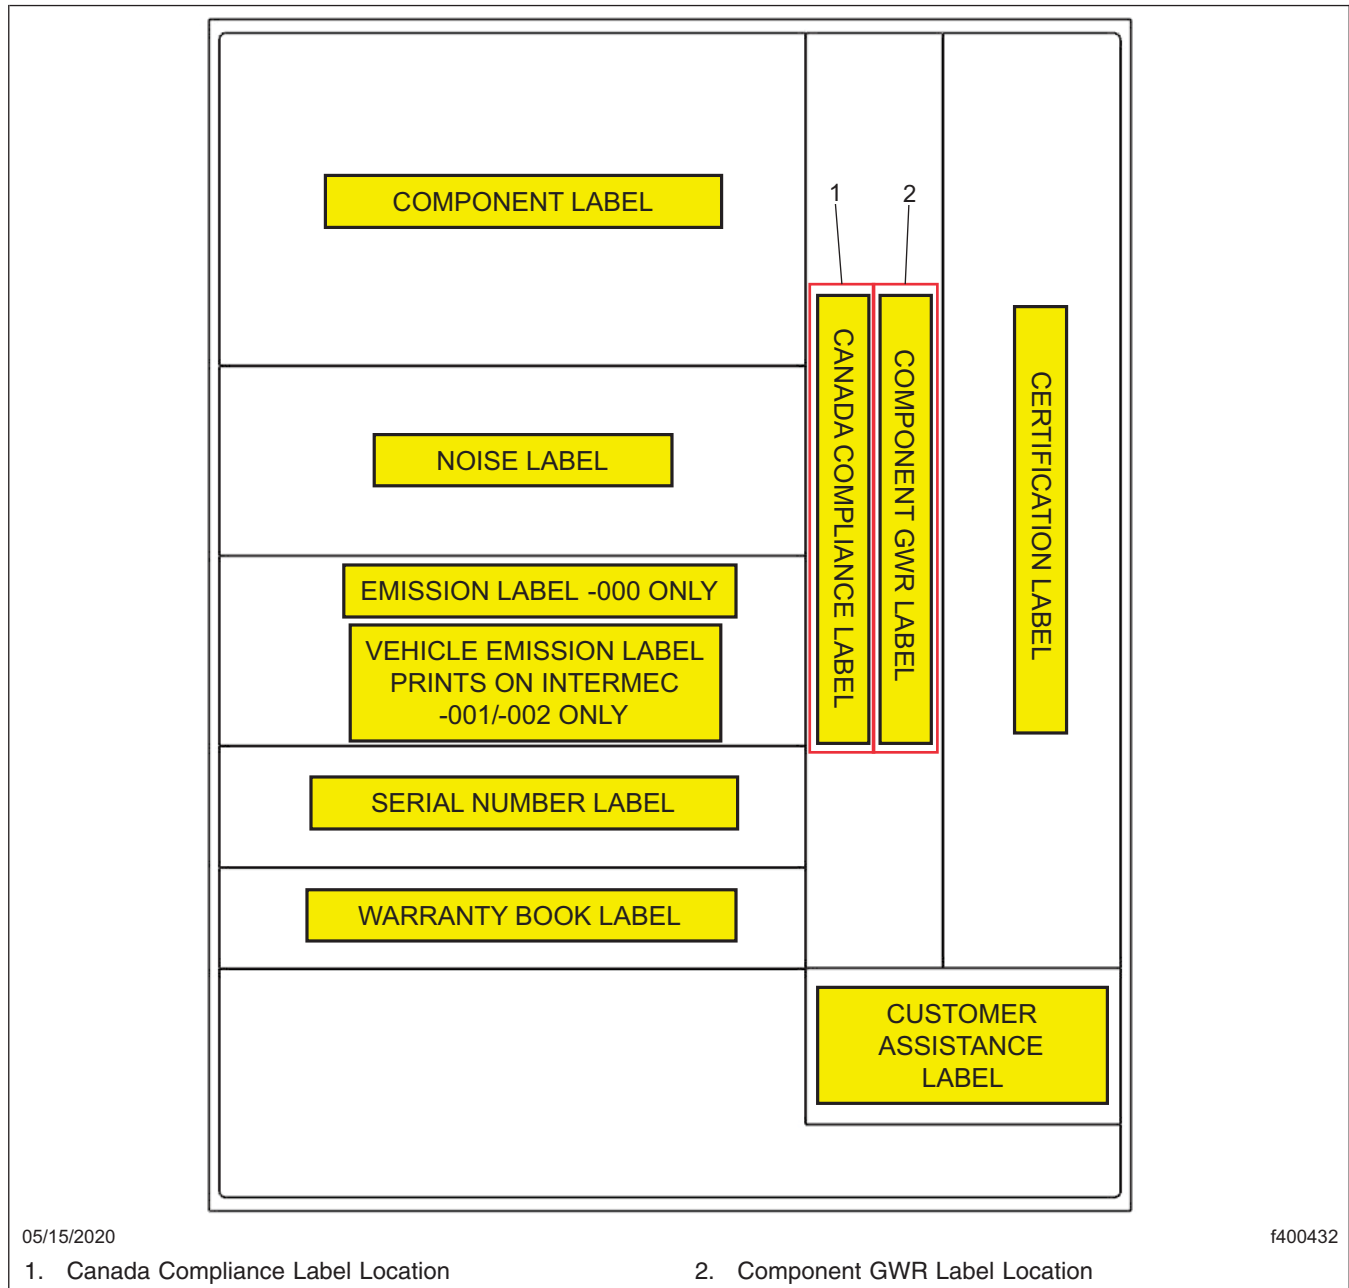

Fig. 9, Component GWR Label Location, Recall Kit, Western Star
4. Locate the new component GWR label. See **Fig. 9**. Make sure the VIN on the current component GWR label matches the VIN on the new component GWR label.
4. Locate the new component GWR label and the new Canada Compliance label. See Fig. 9. Make sure the VIN on the current component GWR label matches the VIN on the new component GWR label.